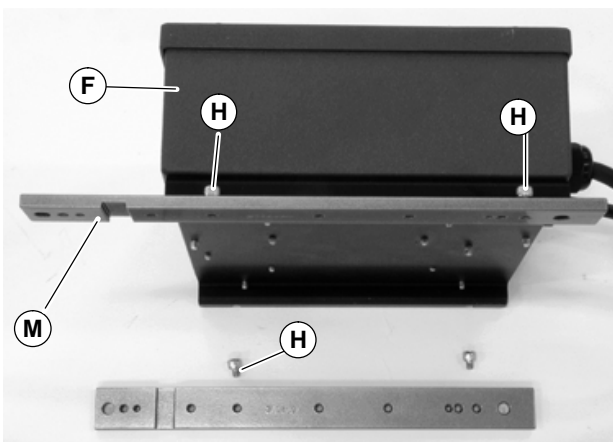

Figure 7
1. Attach mounting bars (M of Figure 7) to controller (F) with screws (H).